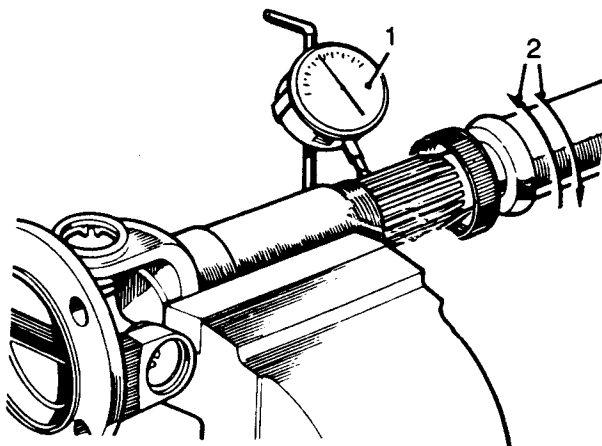

Fig H4.7
- (8) Refer to Fig H4.7. Secure the shaft in a vice.
- (9) Mount a test dial indicator (1) to read off the outside diameter of the shaft splines.
- (10) Check the circumferential movement (2) between the sleeve and shaft. If the movement exceeds 0,1 mm fit a new propeller shaft complete.